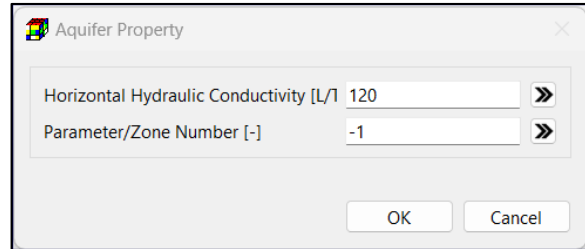

Figure 21. The Aquifer Parameter dialog box
- Most dialog boxes for the polyline data entry contain **»** buttons next to the data entry fields. Figure 21, for example, shows the Aquifer Parameter dialog box with the **»** buttons. You may click the **»** button next to a parameter to apply its vertex data to the cells along the polyline. For packages¹⁶ that support multiple instances of package-specific features in a cell, such as the Well or Drain Package, the **»** buttons only act on existing instances in cells.